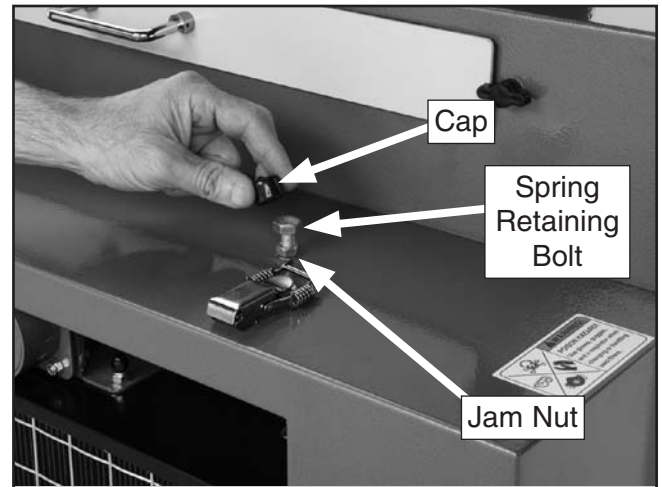

Figure 35. Vibrating filter retainer.
4. Remove the plastic caps and loosen both jam nuts until they park against the underside of the spring retaining bolt heads (**Figure 35**).